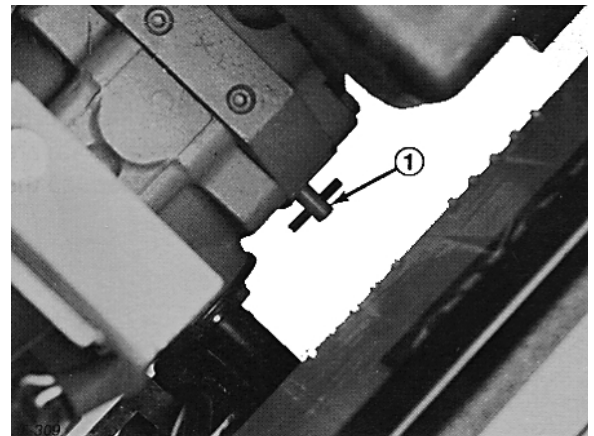

Figure 14
1. Reach under the traction unit and turn the by-pass valve (Fig. 14)  $\frac{1}{2}$  to 1 turn counterclockwise. Opening the valve opens an internal passage in the transmission, thereby bypassing the transmission oil. Because fluid is by-passed, the traction unit can be moved without damaging the transmission.